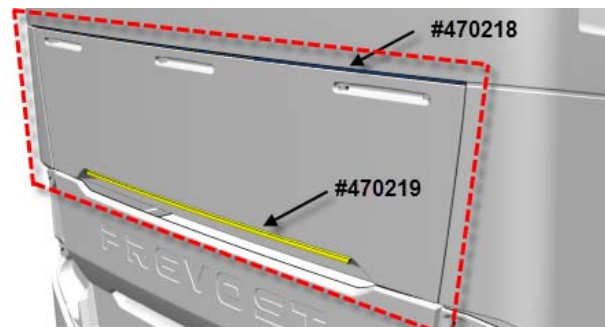

FIGURE 21
2. Clean dirt on the lower part of the **exhaust aftertreatment system ATS** access hatch as well as the area located right above the ATS access hatch (FIGURE 21). It is very important to install the drip edge on a clean surface to assure water tightness.
NOTE: FIGURE 21 shows where the drip edges will be installed.